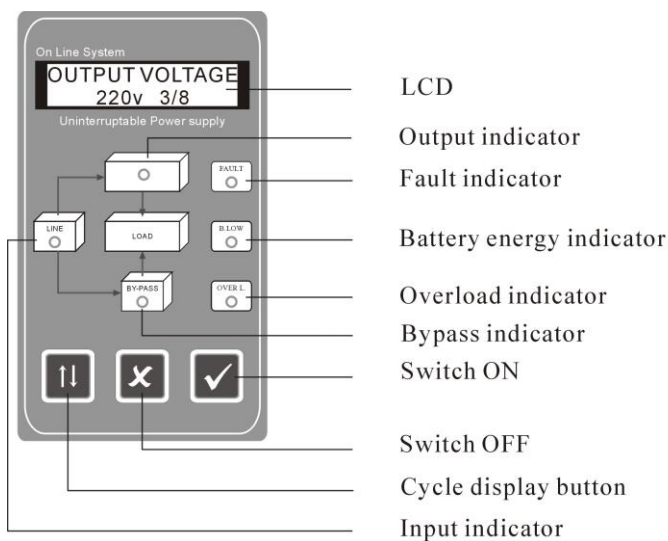

Figure 1. Symbol instruction of front panel indicator
3.1. Display/Control panel(Figure 1)